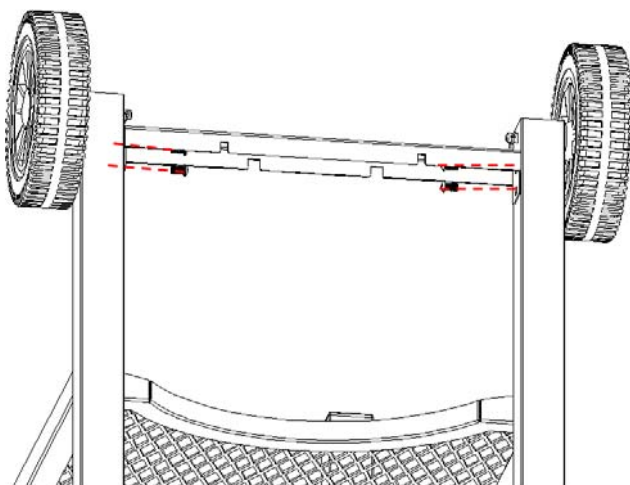

Fig. 7
Procedure: Attach the LP Gas Cylinder Bottom Support Brace to the Left Rear Leg #3 and Left Front Leg #4 using (4) M6x12 bolts as shown as Fig. 7.